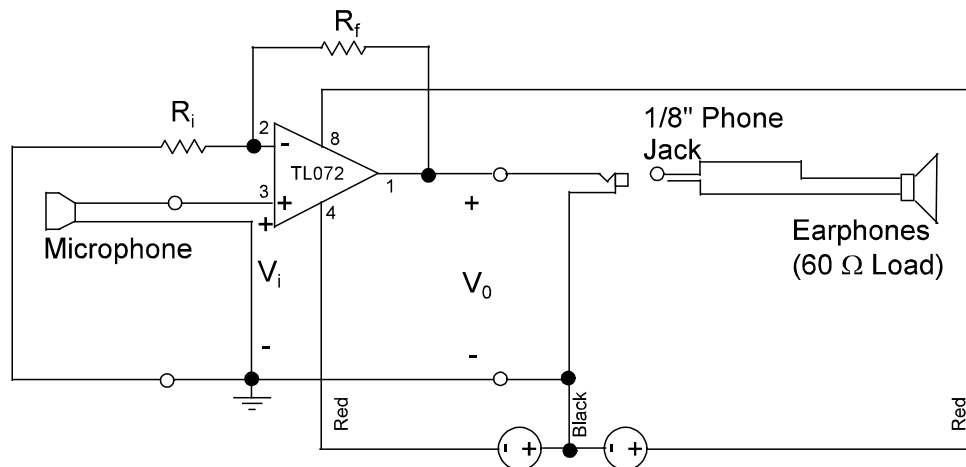

Figure 9-2: Circuit Diagram for Op-amp Driving Earphones
2.4.1 Remove the function generator and connect the output of the microphone to the input of your op-amp using the jack provided, as shown in Figure 9-2. Be sure that the wire from the outer shell of the microphone goes to the ground of your circuit.
2.4.2 Connect your earphone to your op-amp's output, also shown in Figure 9-2, using the jack provided. Which lead goes to ground is not important here. Observe V_i on channel 1 of the oscilloscope and V_o on channel 2. Set channel 1 to $20\ \text{mV}$, channel 2 to $100\ \text{mV}$, with the time-base at $5\ \text{msec}$.
- Circuit like Figure 9-2